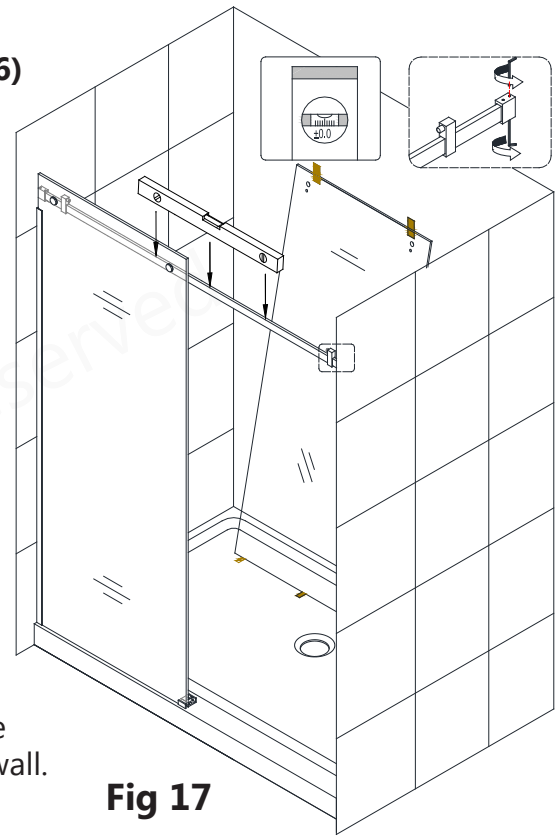
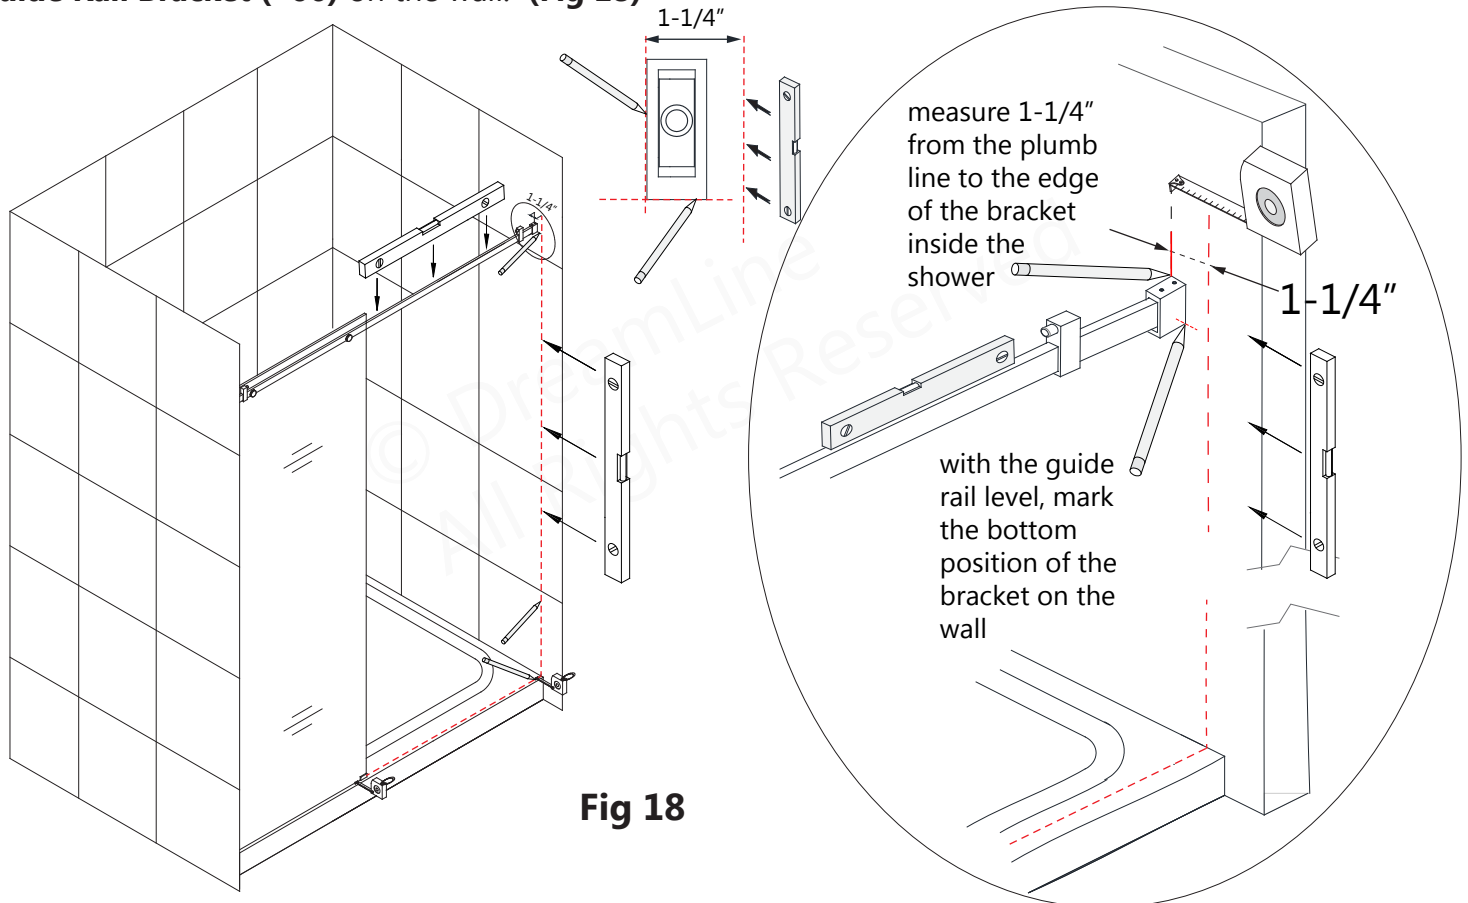

Fig 17
Fig 18
(Fig 17 and Fig 18)
18. Using the reference mark on the threshold from **Step #3**, draw a plumb line up the wall on the door side of the opening. Measure over **1-1/4"** into the shower from this line. With the **Guide Rail (#04)** level, mark the position of the **Guide Rail Bracket (#06)** on the wall. (Fig 18)